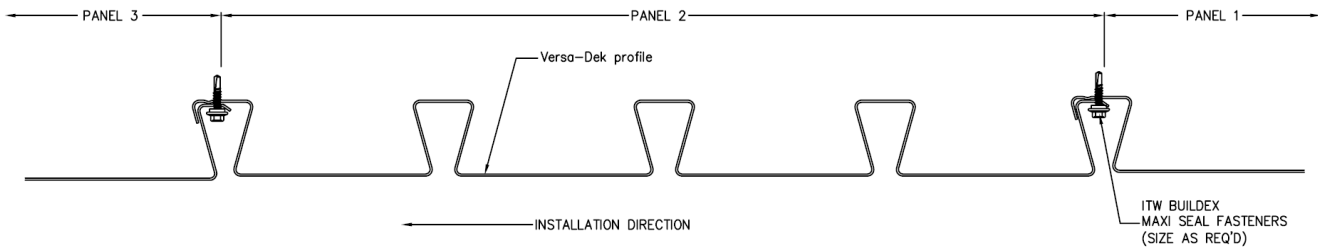

Figure 3: Side-lap Attachment Information
6. Figure 3 – **Soffit-Dek™** - Side-lap Attachment Information
- Figure 3 – **Soffit-Dek™** – Side-lap Attachment Information
- h.) Install adjacent **Versa-Dek®** panel by lifting panel into place and nesting male and female panel legs. Be sure to fully engage adjacent panel at side-lap as shown in Figure 3. Mark any locations requiring cuts and execute as stated in Step e.).